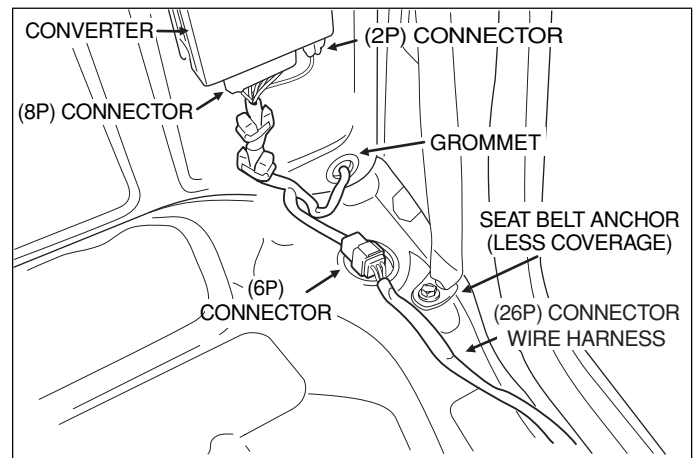

Fig. H3
- ➔ i. Connect the (8P) and (2P) connectors of the converter kit harness to the (8P) and (2P) terminals of the converter. (Fig. H3)
- ➔ ii. Connect the (6p) connector of the converter wire harness to the (6P) connector of the (26P) connector wire harness. (Fig. H3)
- ➔ iii. Route the gray (4P) wire harness through the hole in the rear cab wall and secure the grommet to the rear cab wall. (Fig. H3)
- ➔ iv. Route the (26P) connector wire harness forward as shown. (Fig. H3)